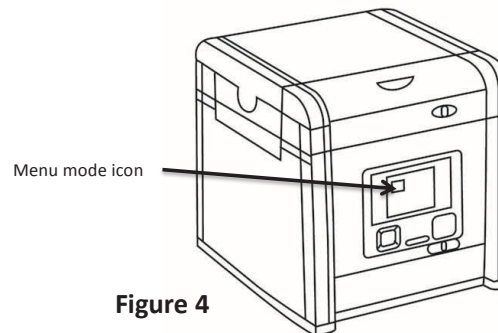

Figure 4
5. The Menu Mode icon will be displayed on the top left side of the display (**Figure 4**).